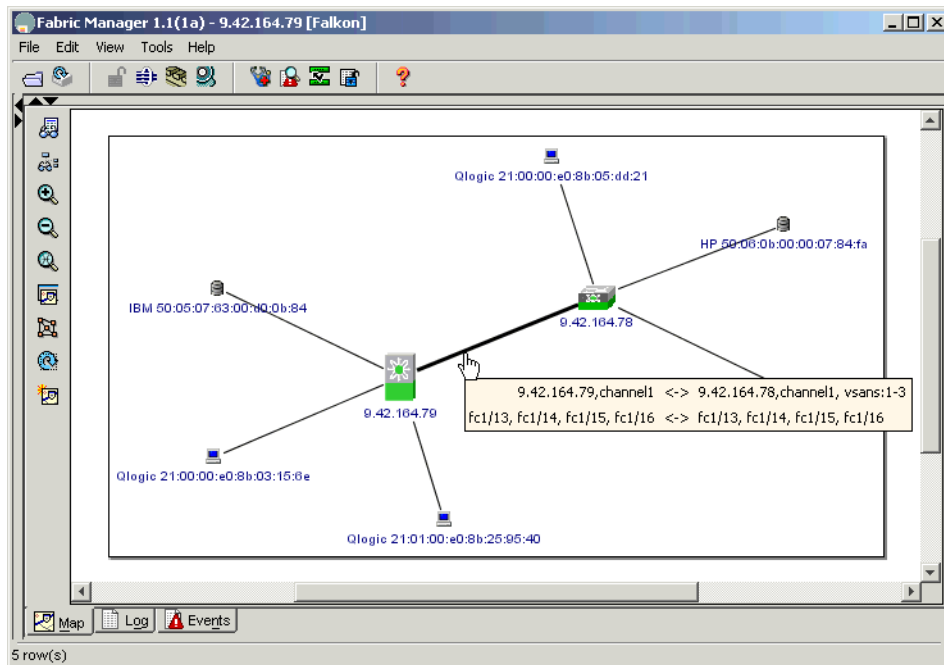

Figure 2-88 PortChannel with four ports
3. The ports are now added to the PortChannel. However, it takes some time before the map display reflects the change. Click the **Refresh Map** button, until you see only the PortChannel in the map display, as shown in Figure 2-88.